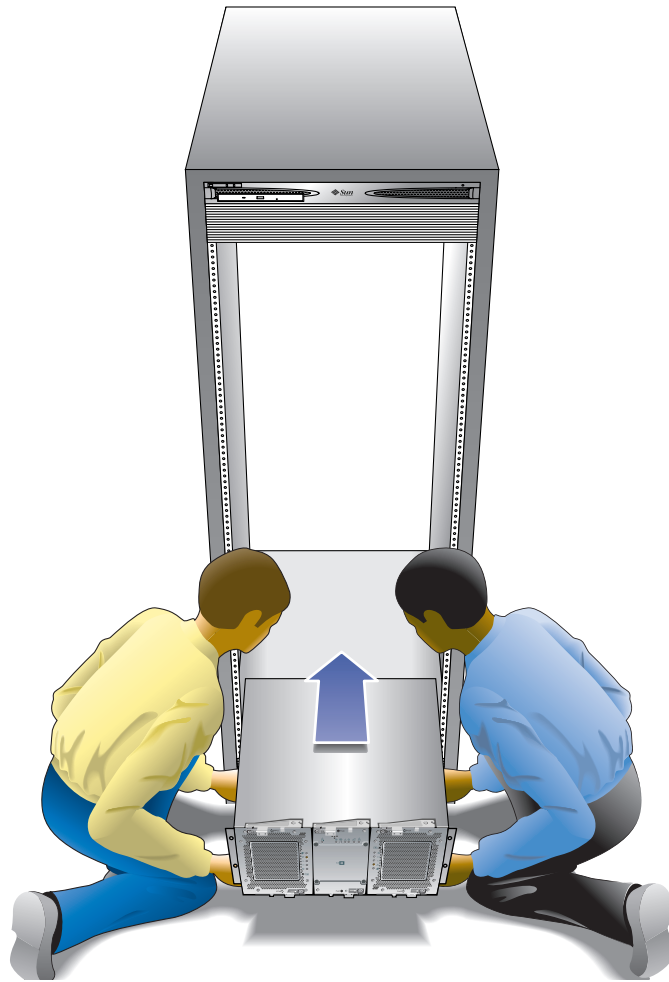

FIGURE 2-11 Positioning the Tray in the Cabinet
1. **Using two people, one at each side of the tray, carefully lift and rest the tray on the bottom ledge of the left and right rails** (FIGURE 2-11).